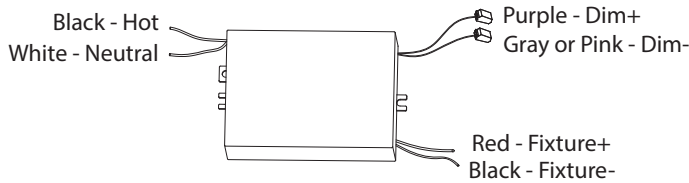

Fig.5
CONNECTING THE WIRES (Fig. 2 / Fig. 3 / Fig.5)
8. The lamp can switch between four color temperatures (2700K-3000K-3500K-4000K), which can be adjusted to your preference with the switch in the canopy (Fig.5).